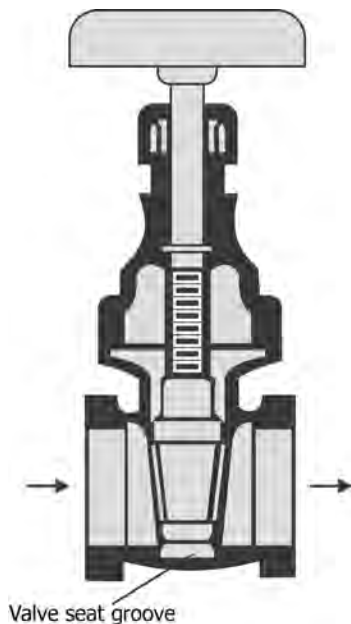

FIGURE 3.6 Gate valve.
- A relief valve may be required in cases where pressure build up is likely due to expansion of fluid between two gate valves in closed position. A typical gate valve is illustrated in Figure 3.6.